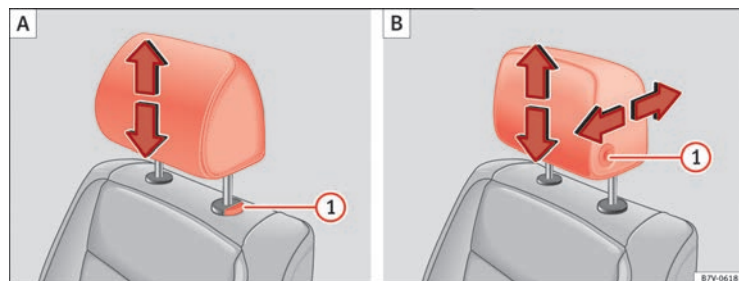
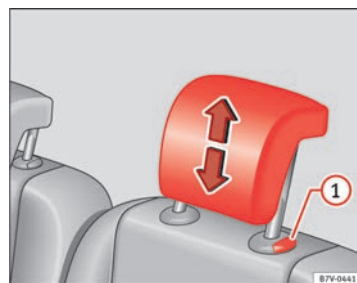

Fig. 84 A: Adjust the head restraints with no possibility of lengthways direction adjustment, B: Adjust the head restraints with lengthways direction adjustment
Fig. 85 Adjust the head restraints in the second or third row of seats
- Raise the head restraint in the direction of the arrow or lower it ⇒ Fig. 84 or ⇒ Fig. 85 ① with the button pressed ⇒ .
- Push the head restraint forward in the direction of the arrow or backward ⇒ Fig. 84 ① B with the button pressed.